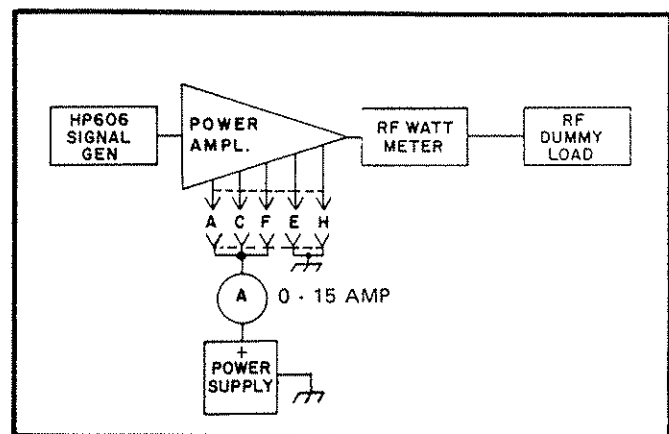

Figure 5.2 Power Amplifier Test Setup
- i. To remove filter compartment cover, remove all 12 screws holding it to the filter chassis. Figure 5.2 shows the Filter module with cover removed.
5.10.3.2 For servicing the power amplifier, it is desirable to use an external power source capable of 28VDC at 12 amperes, continuously variable from 0 to 28 VDC. If such a power source is not available, the transceiver power supply can be used. A typical test set-up is shown in Figure 5.2.
5.10.3.7 When transistor replacement is complete, test the power amplifier per test setup shown in figure 5.2. Apply D.C. power and slowly increase signal generator drive until 100 watts is shown on the wattmeter. The ammeter should indicate approximately 8.5 amperes. Allow the amplifier output to remain at 100 watts for one or two minutes. Remove the signal drive. The ammeter should drop to 1 ampere or slightly greater. If the current drops to 2 amperes or higher and slowly decays toward the 1 ampere level, this means that one or both output transistors has not been properly seated to the heat sink. They should be removed, examined for foreign particles and replaced carefully. Repeat the above test to insure proper installation.